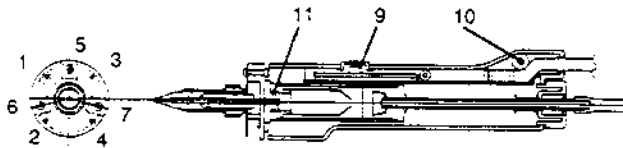
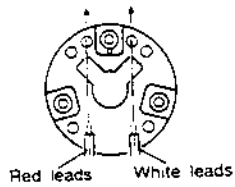

FIGURE 7.
FIGURE 8.
4. Remove the housing fastener (8) — Fig. 7.
5. Remove the screws securing the housing (10) and the flange (3), (4) — Fig. 7.
6. Remove the front holder (11) — Fig. 7.
7. Remove the screws (5), (6), (7) securing the heating element to the flange, and the screws (1), (2).
9. Secure a new heating element ($24\ \text{V} - 60\ \text{W}$) to the flange with screws (5), (6), (7). Install the heater in such a way that the lead wires are oriented as in Fig. 8.